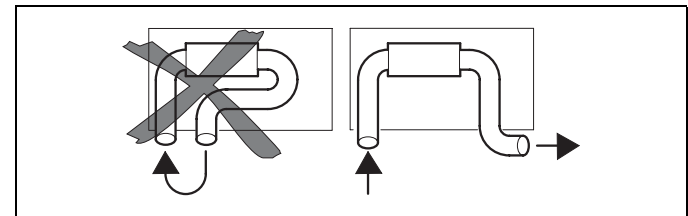

Fig. 21: Avoid short circuits
- No air short circuit between the heater's air inlet and the heater's air outlet (see Fig. 21);